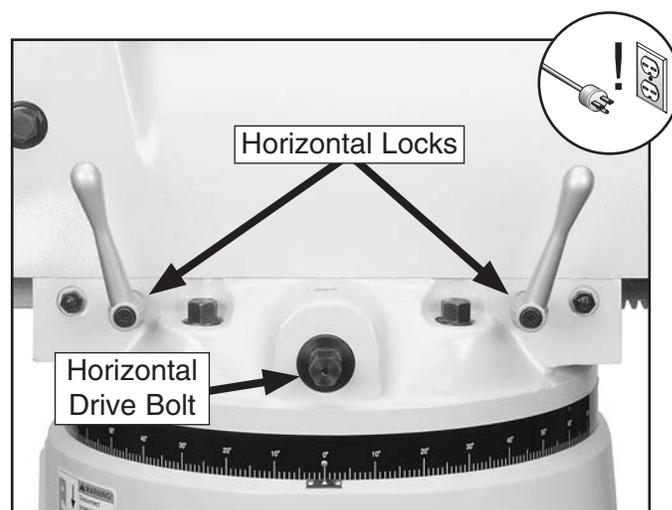

Figure 30. Ram horizontal locks and drive bolt.
2. Loosen the two horizontal locks shown in **Figure 30**.